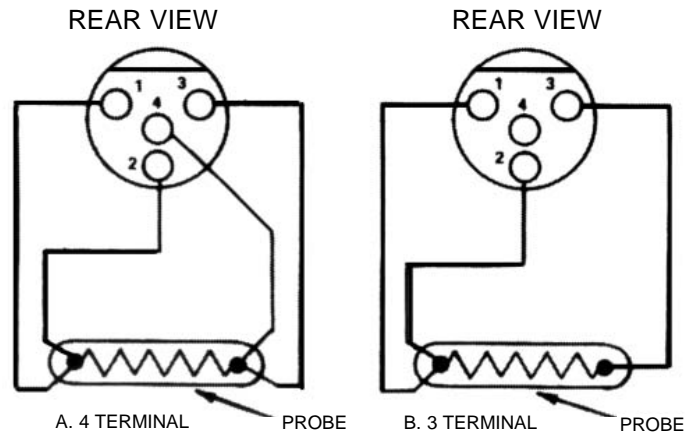

Figure 2. 100 Ohm Platinum RTD Connections
1. Connect a temperature probe to the input connector on the top of the instrument. Use one of the probes described in the accessories section; or install a 4-wire connector on any 100 ohm platinum RTD probe using the information in Figure 2.